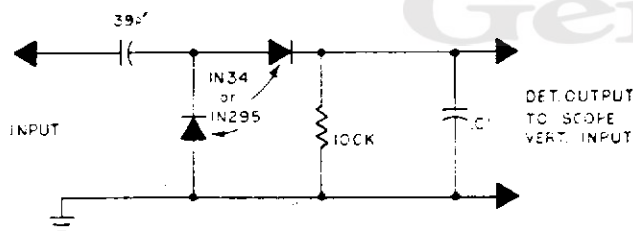

Figure 4-5. High-Impedance Detector
- a) Connect detector input (Figure 4-5) to pin 5 of IF amp. IC101; connect detector output to scope vertical input. Set scope vert. sensitivity to give a usable pattern with minimum sweep-generator input.